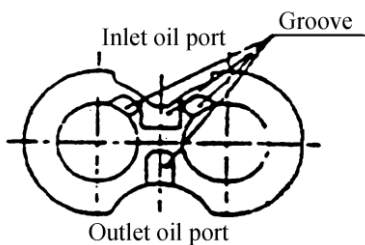

Fig. 7-14 Lining plate
- (d) Install the lining plate on the side of the gear, with groove aiming gear point, don't confuse the inlet oil port and the outlet oil port. (Fig. 7-14)